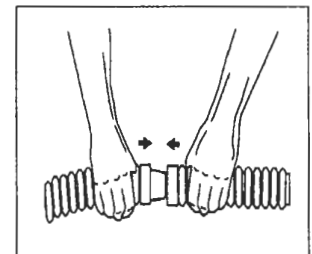

Figure 4
There are eleven (11) 3/2" connector hoses and one (1) 3/2" leader hose with a gray cuff. Connect the special cleaner hose sections together by pushing and twisting the tapered male connector end of each hose firmly into the female end of the adjacent hose sections (See Fig. 4). Depending on the size and shape of your pool, all hose sections might not be used. However, **the leader hose MUST ALWAYS be used or your cleaner will not operate properly.** It is not necessary to "Bottom Out" the connections, but they **MUST** be tight enough to prevent any air leaks. Wetting the hose ends will make it easier to connect the hose sections.